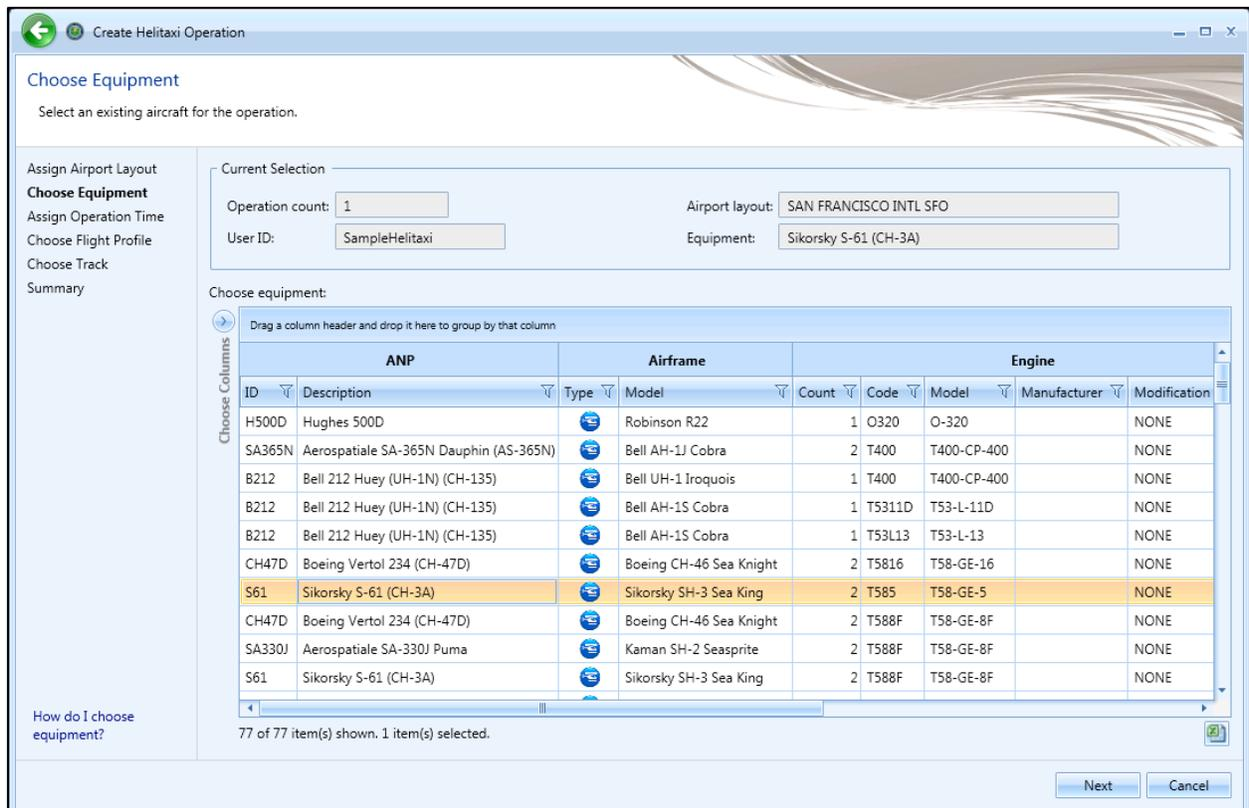

Figure 6-46 Create Helitaxi Operation – Choose Equipment (Single)
1. Select the desired helicopter from the *Choose equipment* list (Figure 6-46). Multiple helicopters can be selected in this step for bulk operation creation (Figure 6-47). To deselect equipment, click on the highlighted entry again.